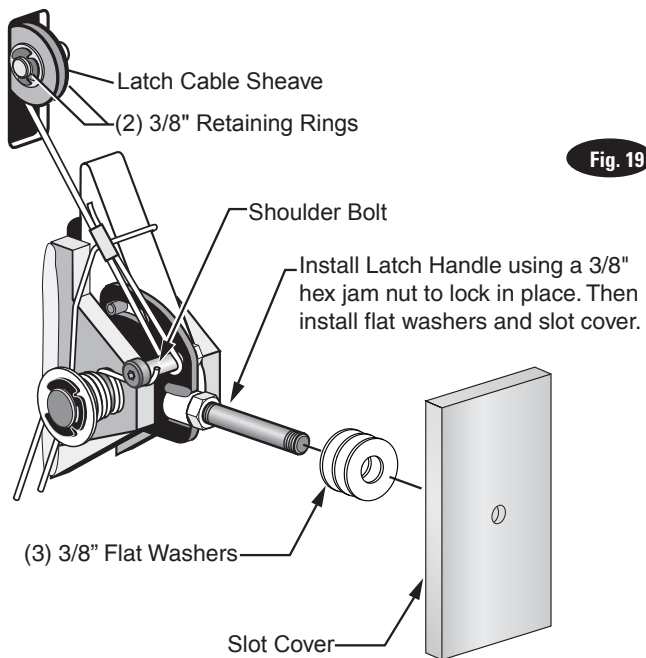
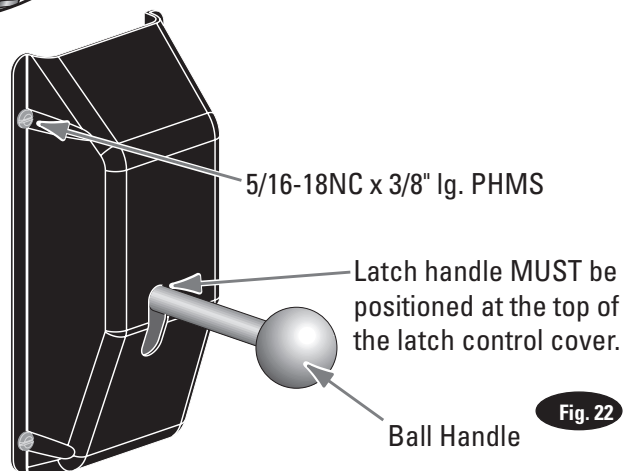

Fig. 19
Fig. 22
- A) Slip loop end of cable over end of shoulder screw on right side latch control plate, Fig. 19.
- B) Feed the other end of the cable through the latch cable sheave slot making sure that the cable is running under the bottom side of the latch cable sheave and inside the right column, Fig. 19.
- H) At this point you **MUST** install the latch handle, jam nut, and right column latch cover Fig. 19 & Fig. 22. Install latch handle ball, Fig. 22.